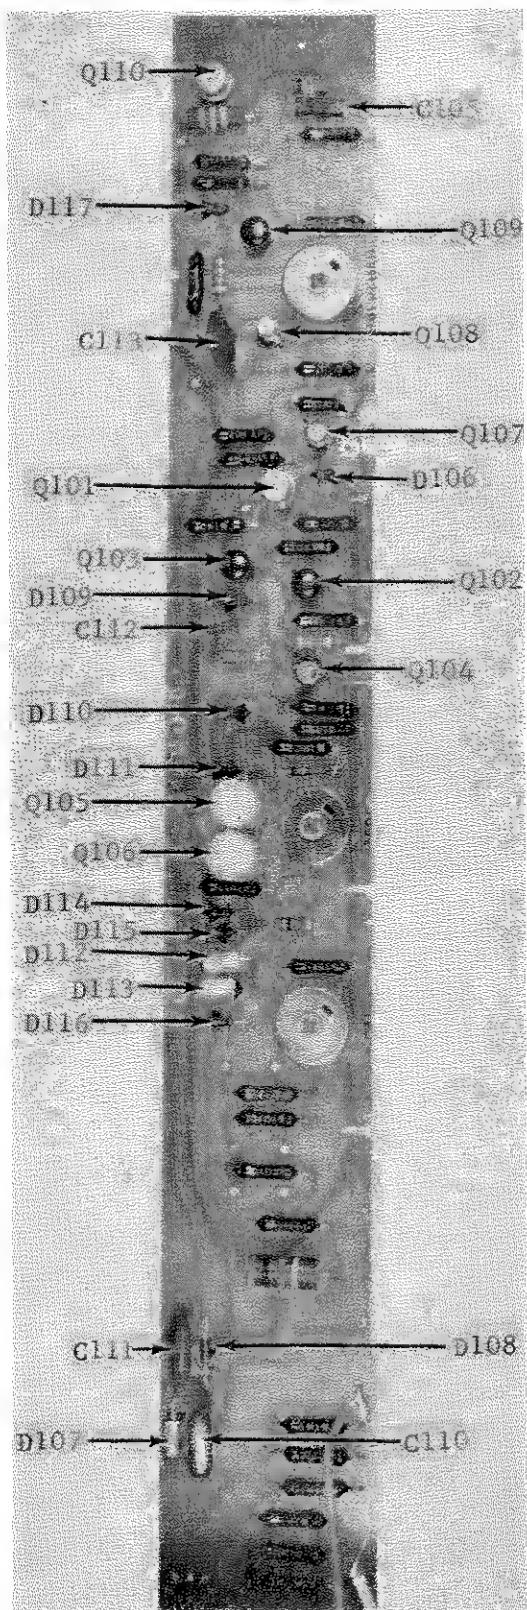

FIGURE 16. Capacitor, Diode and Transistor Locations on Front Section of PC-131.
a. To troubleshoot the voltage control amplifier, first remove the high voltage by turning the OUTPUT ON Switch to 'off'. Remove tubes V101 and V102 (Figure 13) from their sockets and disconnect the plate caps. Make sure the plate caps are clear of all surrounding components. Place a shorting jumper across either diode D112 or D113 (Figure 16).
b. Set the front panel controls as in paragraph 4-7, b. Since there is no overload, there should be a reverse voltage across diode D109 (Figure 16). The amplifier should be in its normal mode.
c. If 105 volts is not present, then either transistor Q109 or Q110 (Figure 16) or the associated circuitry is defective. Measure the voltages within the circuits to locate the trouble.